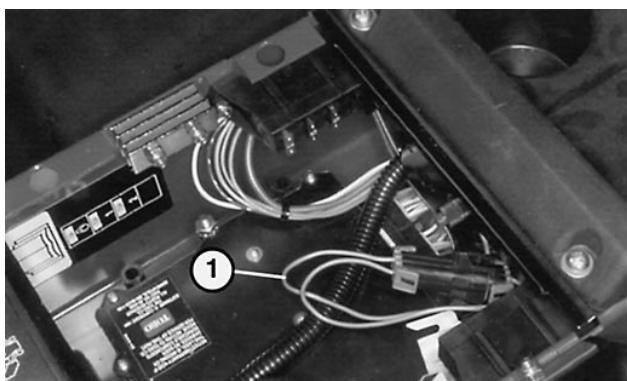

Figure 27
2. Open the control panel cover. Locate the wire harness and connectors near the controller. Carefully unplug the loopback connector from the harness connector (Fig. 27).